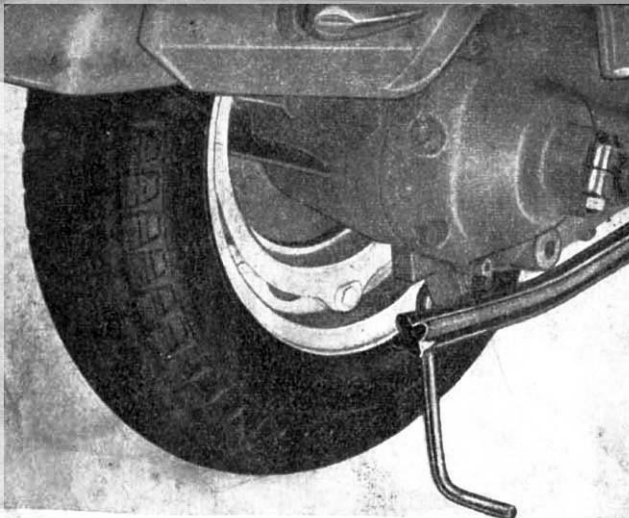

Fig. 8
- fit the rear wheel lift stand, supplied in kit, to the lug on crankcase (see fig. 8);